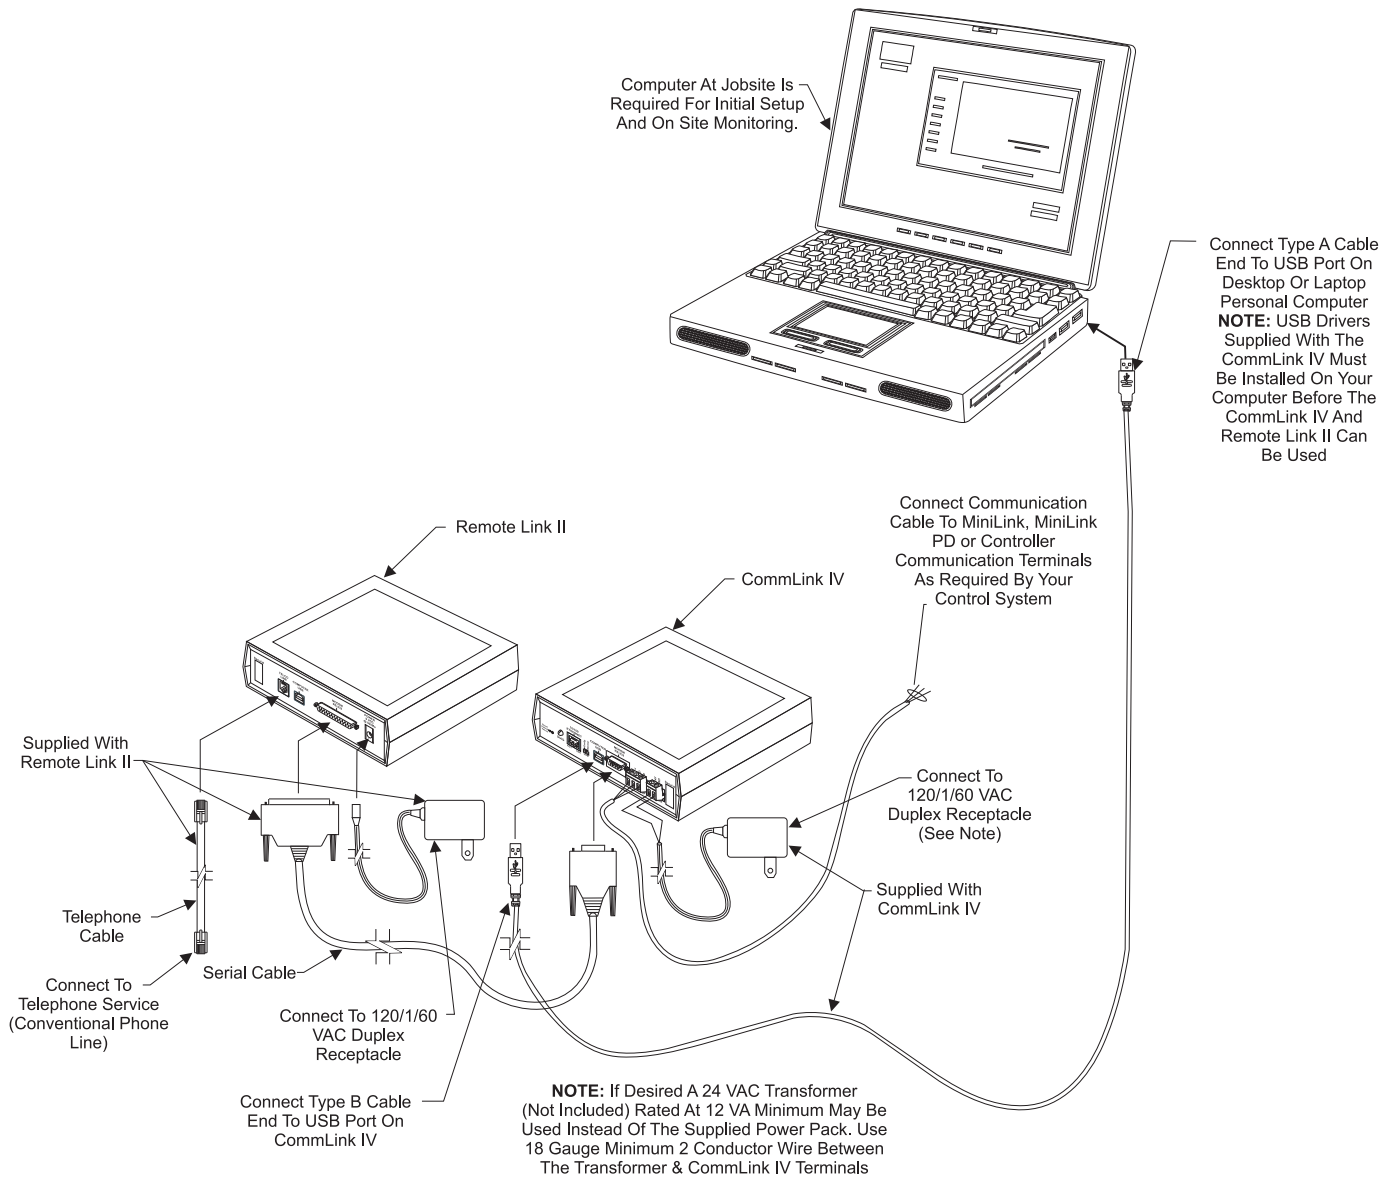

Figure 2: Remote Link II Connection and Wiring at Controls System Location
- Follow the included Remote Link II connection and wiring instructions sheet (*Figures 2, 3, and 4 on pages 10-11*) to connect and configure the Remote Link IIs.
- Step 1: **At the job site**, connect the Remote Link II to the CommLink IV using the supplied serial cable and connect the CommLink IV to a computer. *See Figure 2 on page 10.* Install the USB drivers for the CommLink IV. If you are using the Remote Link II solely for alarm call-outs, skip the steps below and go to “Prism Setup for Alarm Call-Outs” on page 15.
Step 1: **At the job site**, install the USB drivers for the CommLink IV. Connect the Remote Link II to the CommLink IV using the supplied serial cable and connect the CommLink IV to a computer. *See Figure 2 on page 10.* If you are using the Remote Link II solely for alarm call-outs, skip the steps below and go to “Prism Setup for Alarm Call-Outs” on page 15.